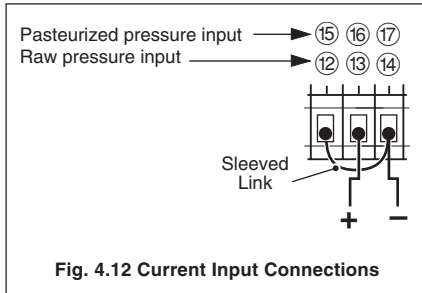

Fig. 4.12 Current Input Connections
4.9.1 Current Input – Fig. 4.12